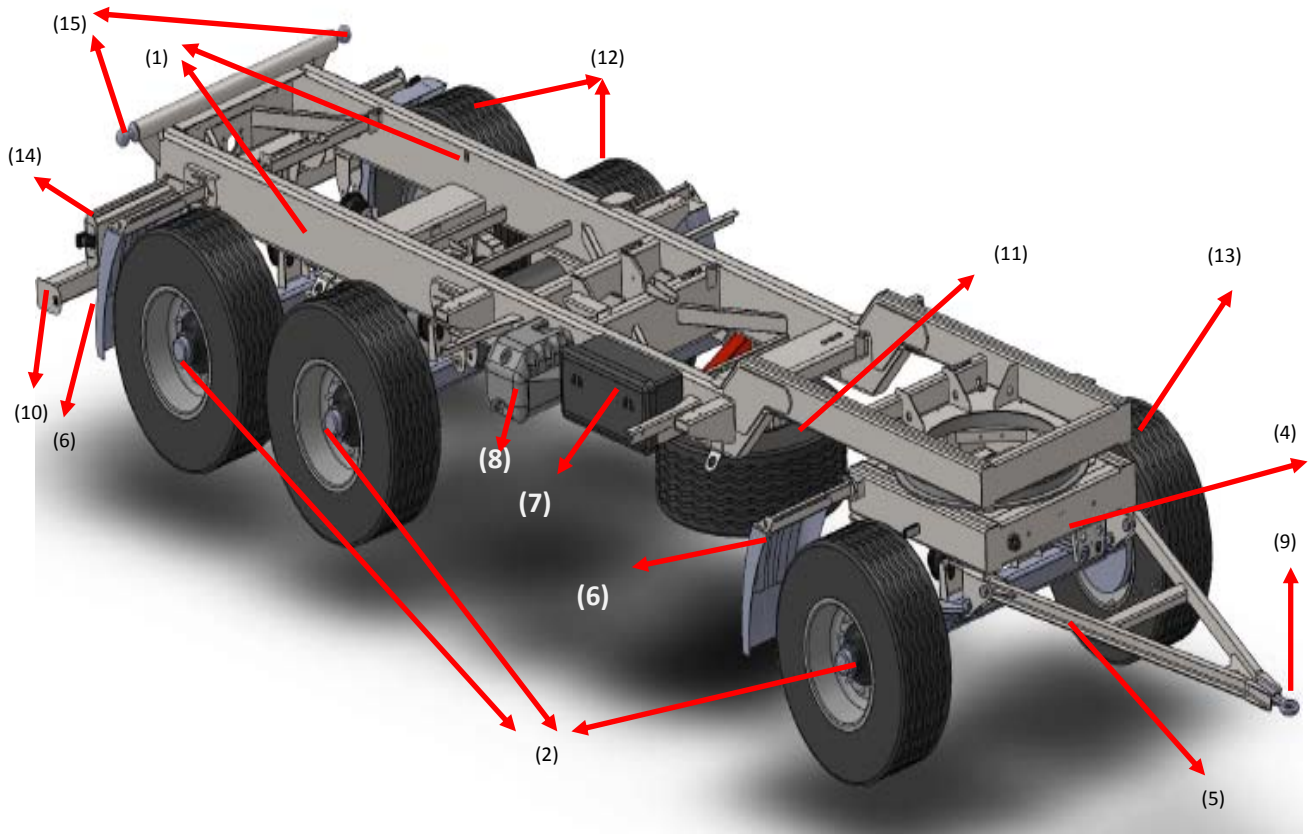

Figure 6: Trailer chassis
The trailer is labeled with the information and warning decals mentioned in Table (3). The symbols are positioned as presented in Figure 6. Throughout the time it is in use, the user of the machine is obliged to take care that notices and warning and information symbols located on the trailer are clear and legible. In the event of their destruction, they must be replaced with new ones. Safety decals are available from your ROMSAN dealer or directly from ROMSAN customer service. New assemblies, changed during repair, must be labelled once again with the appropriate safety signs. During trailer cleaning do not use solvents which may damage the coating of information label stickers and do not subject them to strong water jets.
Trailer chassis consists of subassemblies indicated on Figure 6. Lower frame (1) of the load box is a structure welded from steel sections. The main support elements are two longitudinal rails connected with crossbars. In the middle section there are sockets (optionally) used for mounting of the tipping ram cylinder. In front of the sockets of the ram cylinder is mounted the load box support. At the rear part of the frame there is a beam (15) terminated with ball pins. The support structure of the upper frame and the interlocking method allows tipping of the load box to the side and to the rear. Brackets for mounting of the upper frame are welded on the left and right side of the front beam of lower frame. Shapes of the holes are designed in such a way that pins connecting the upper frame with the lower frame are replaced in the correct sockets.